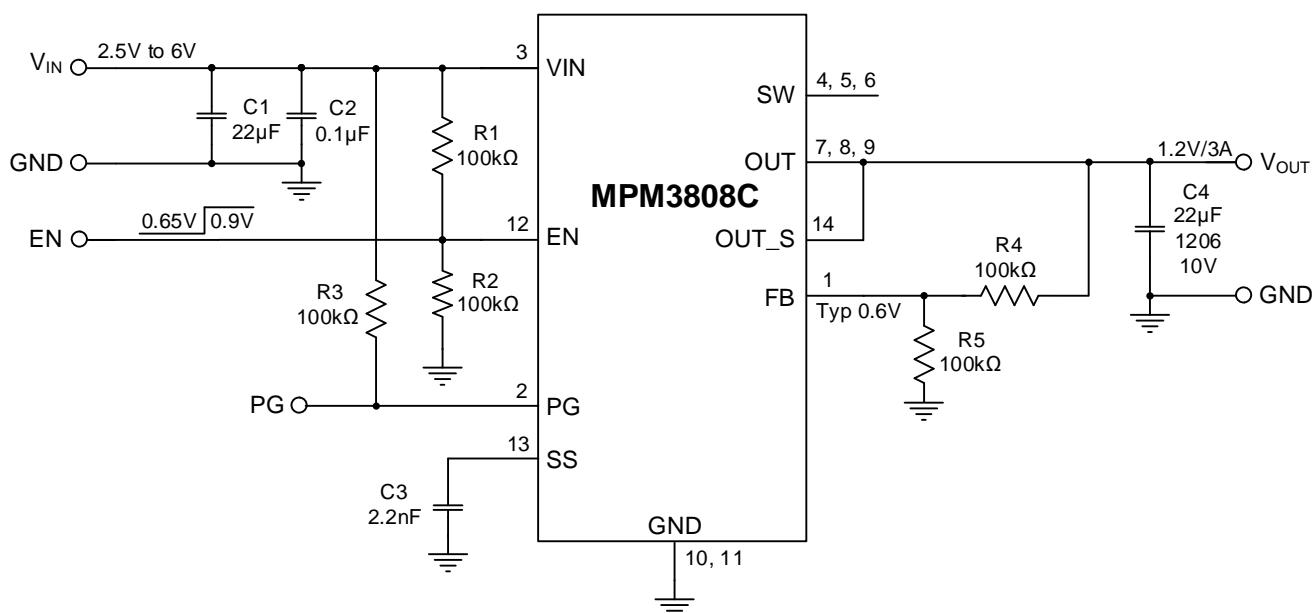

Figure 7: Typical Application (Adjustable Output,  $V_{OUT} = 1.2V$ )
11) The recommended PCB layout is based on Figure 7 on page 24.
Updated the max $V_{IN}$ from 5.5V to 6V for Figure 7 to Figure 10.	24–25